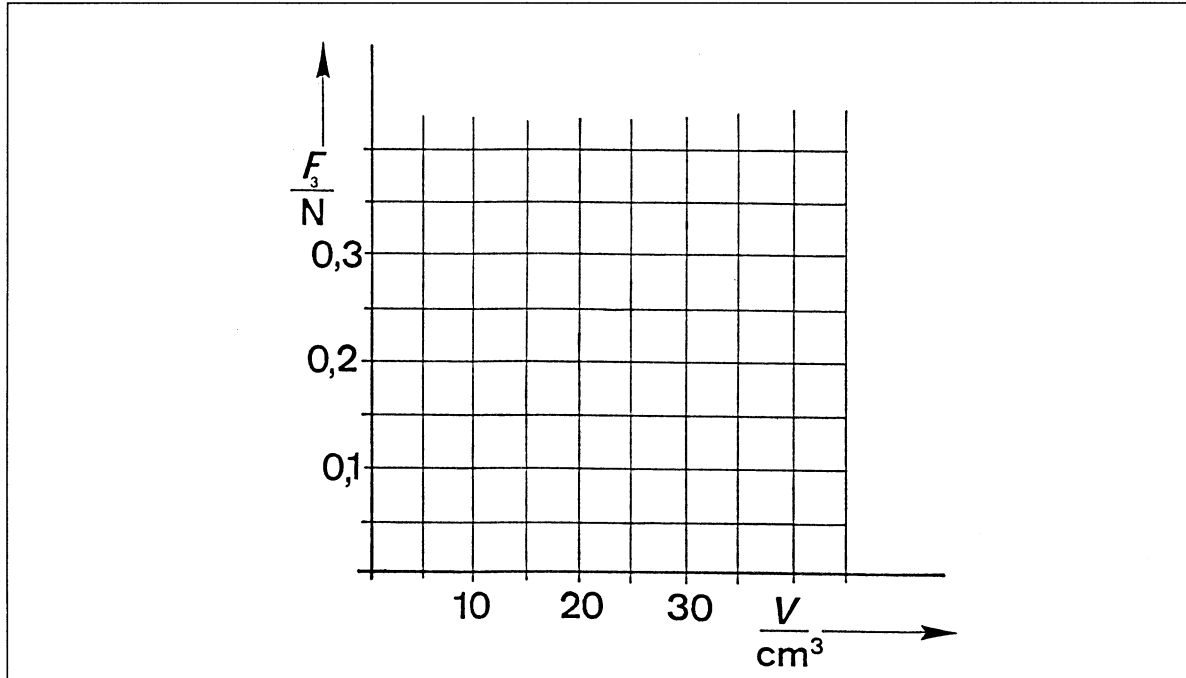

Fig. 2 Buoyancy force F_3 as a function of the volume V of the bodies.
16. In the graph in fig. 2, show the buoyancy force F_3 as a function of the bodies' volume.